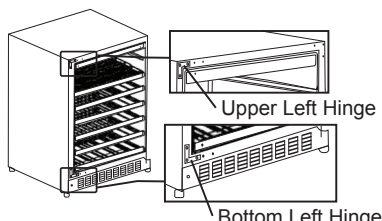

Figure 4
5. Install the upper left hinge and bottom left hinge to the left side of the cabinet. Make sure the screws are tightened. (See Figure 4.)